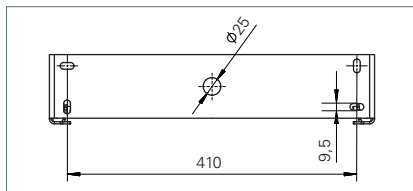

Fig. 4: Hole pattern.
- ▶ Mount the wall holder to the wall using suitable screws, see Fig. 4.